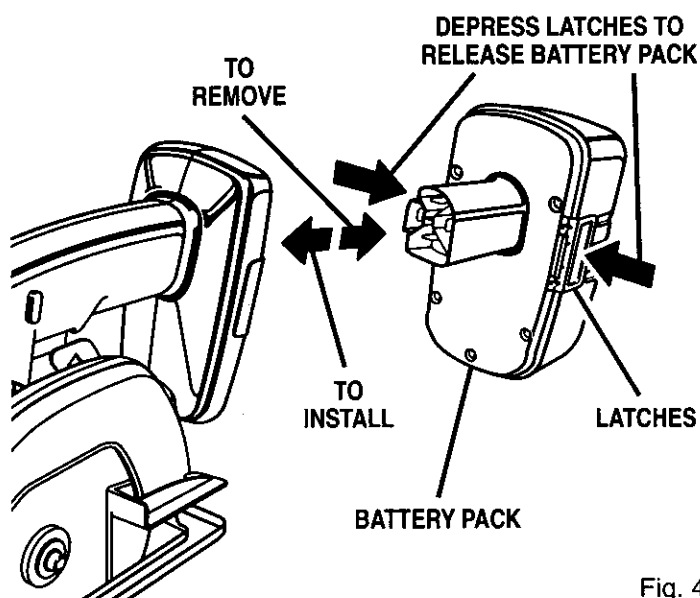

Fig. 4
See Figure 4.
- Locate latches on side of battery pack and depress to release battery pack from your saw. See Figure 4.